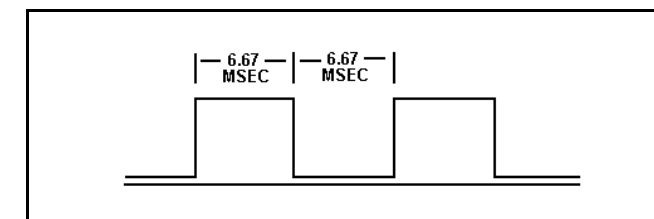
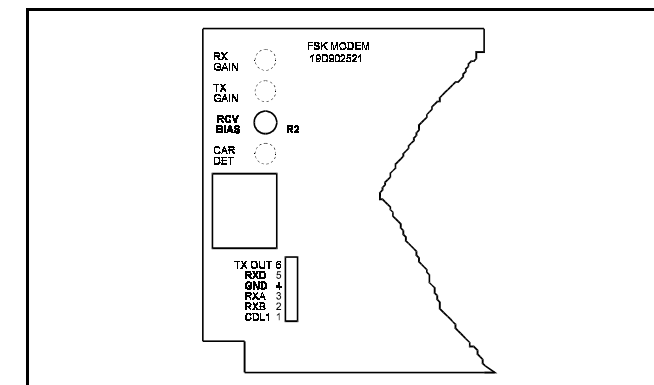

Figure 2 - RXD 75 Hz Symmetry
Figure 3 - FSK Modem Component Location
2. Adjust RCV BIAS control R2 on FSK Modem to achieve 50/50% symmetry of 75 Hz square wave. (See Figure 2). High & Low" should equal 6.67 milliseconds. Note: An extender board may be necessary to gain access to R2. See Figure 3.